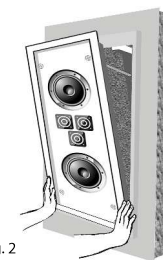

Fig. 2
- 4) Slide the bottom end of the speaker into the wall until the bolts are resting on the openings bottom edge (See Fig.2)